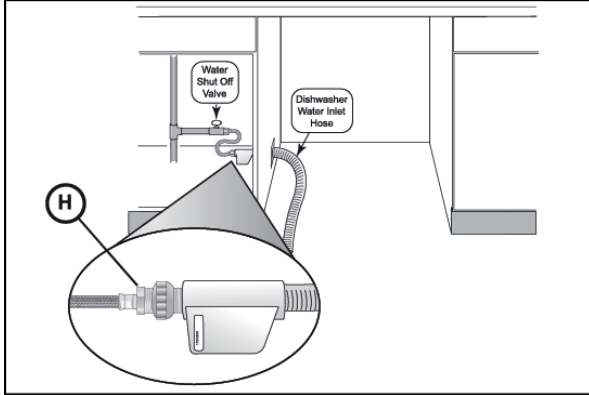

Figure 9
Install an easily accessible shut-off valve (not supplied) in the hot water supply line, as shown in **Figure 9**. All solder connections must be made before the water line is connected to the dishwasher.
1. Assemble the water supply adaptor fitting (H) from the parts bag onto the dishwasher water supply hose. This connection does not require Teflon brand tape
*NOTE: The end of the dishwasher water inlet hose is heavy and will need to be supported. It is best to lay the end on the cabinet floor as shown in **Figure 9**.*